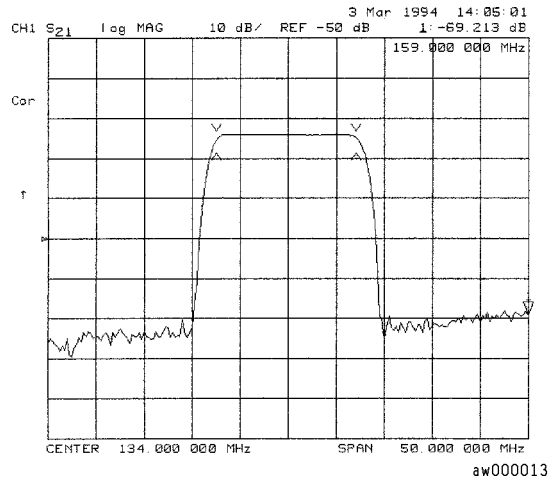

Figure 10-5. Example Single Points Limit Line
- 2** To designate a single point limit line, as shown in Figure 10-5, you must define two pointers;